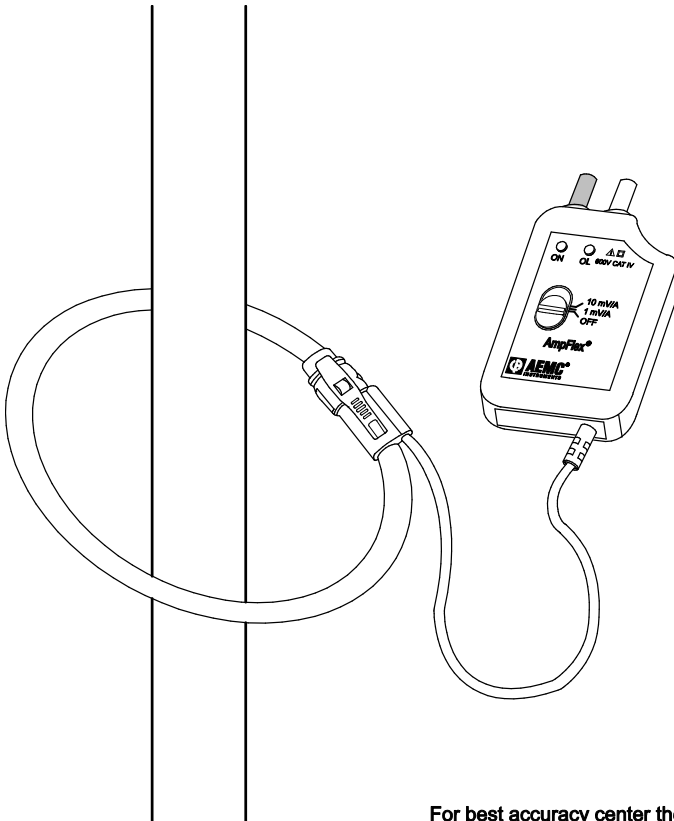

Figure 2
- For best accuracy, center the AmpFlex® around the conductor to be measured. (See figure 2).